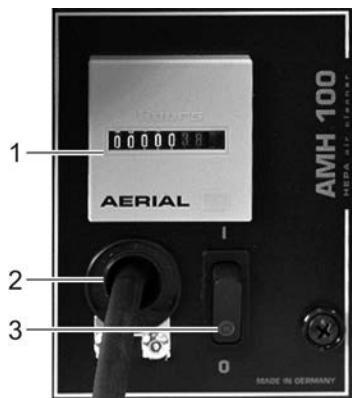

Fig. 2: Operating Panel AMH 100
1. Switch off the device at the on/off switch (Fig. 2, Pos. 3).